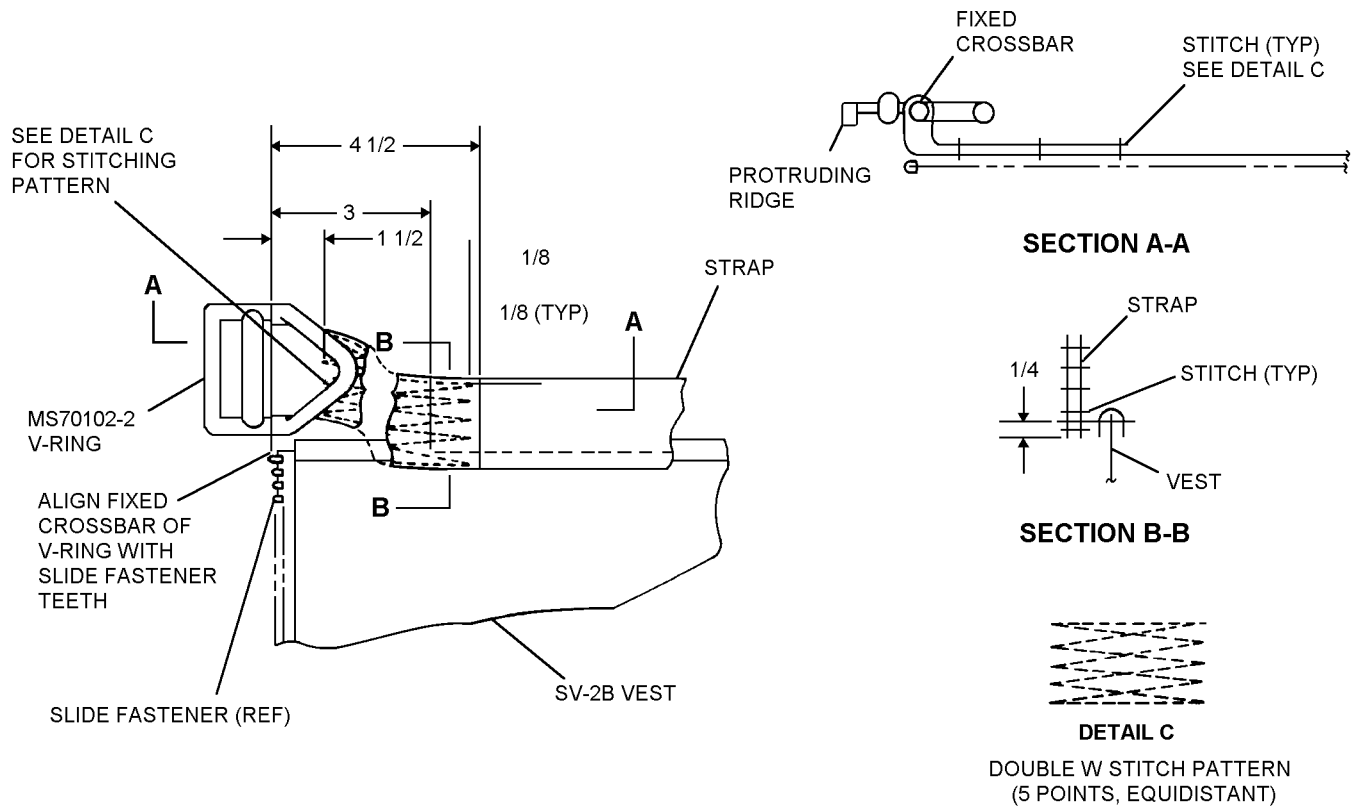

Figure 6-15. Helicopter Rescue Strap for SV-2 Series Survival Vest
2. Install parachute harness V-ring on strap and secure by stitching as indicated in figure 6-15. Use nylon 6-cord, five to six stitches per inch.